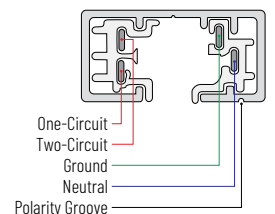

Figure 1
2. To install into a two circuit track, raise the circuit contact on the track head adapter by using a flat head screwdriver to lift up the contact point. (Figure 1)